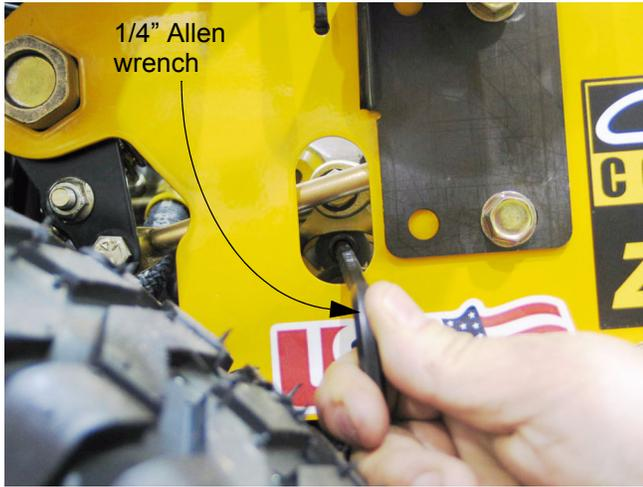

Figure 18.3
- 18.3. The adjustment point is easily accessible through an oval-shaped opening near the rear of the control housing. See Figure 18.3.